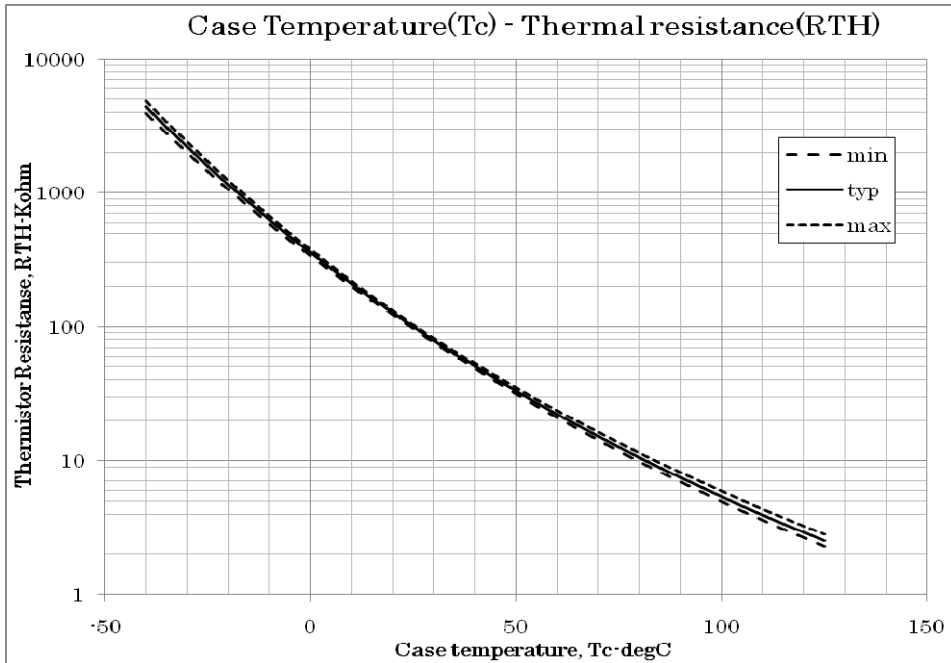
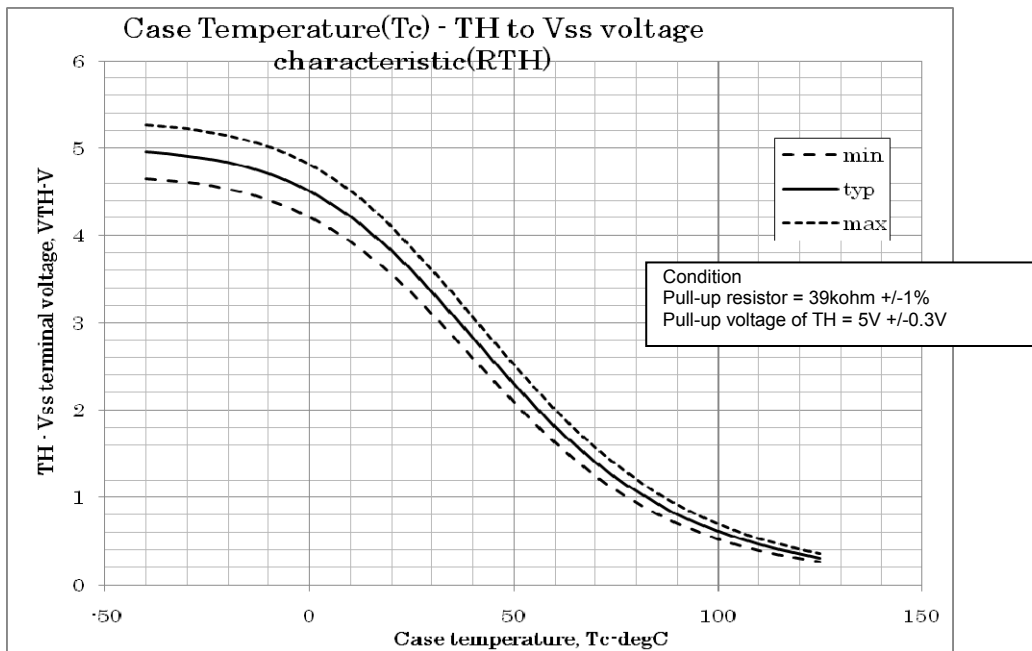

Fig.10 Variation of thermistor resistance with temperature
Fig.11 Variation of temperature sense voltage with thermistor temperature
4. Inside the IPM, a thermistor used as the temperature monitor for internal substrate is connected between “TH1” and “TH2” . Generally, one of terminals is connected to V_{SS}, and the other is pulled up to external power supply with pull-up resistor (R_p) externally. The temperature monitor example application is as follows please refer the Fig.10 and Fig.11 below.